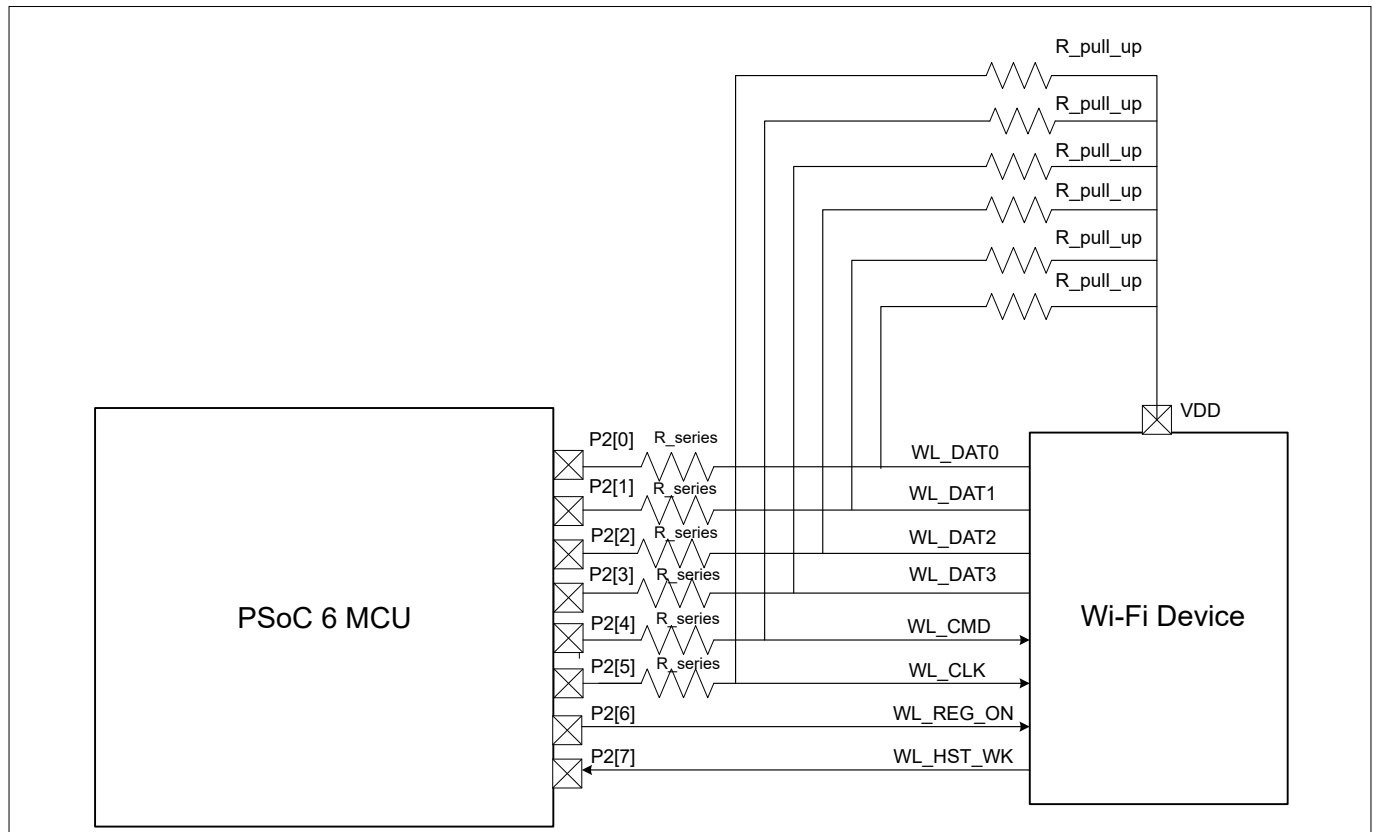
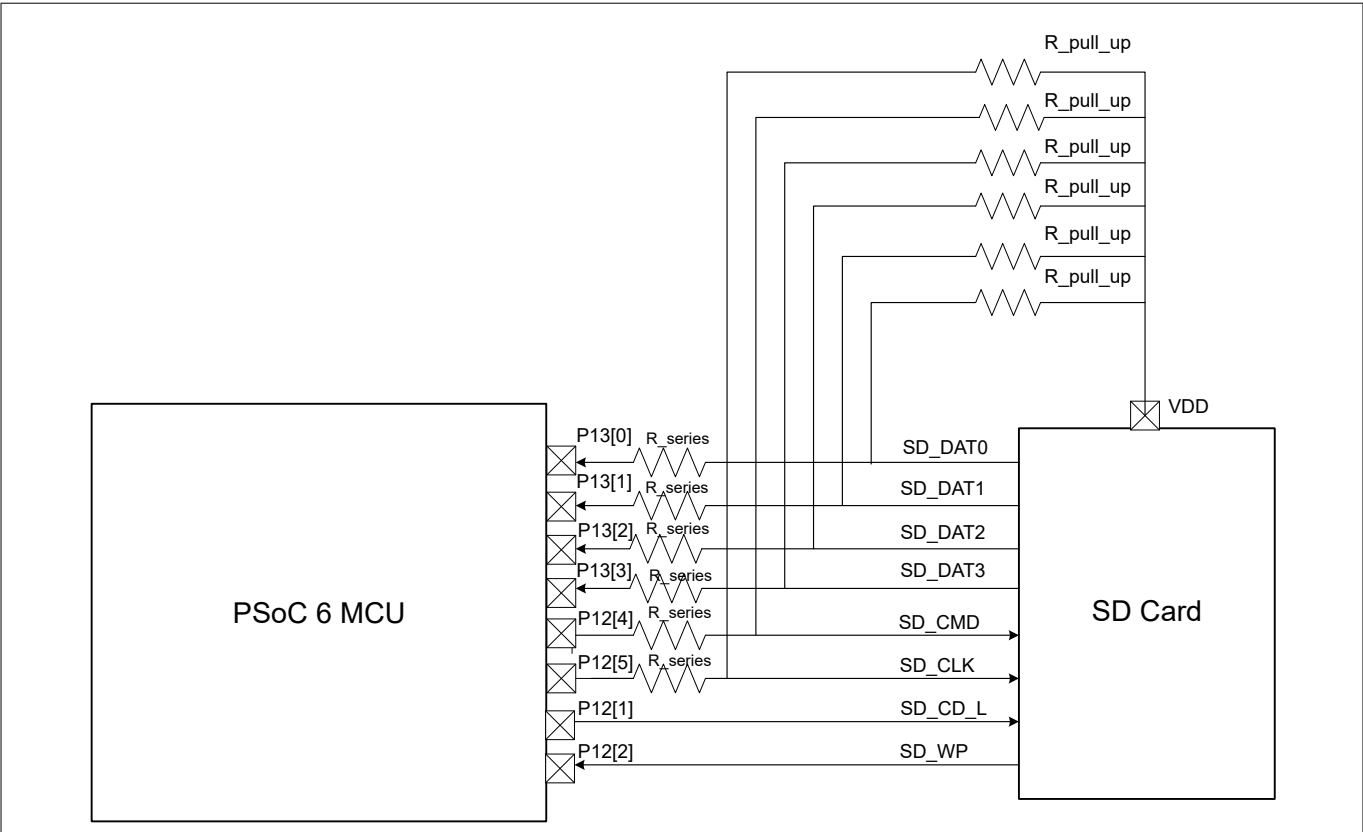

Figure 36 Interfacing Wi-fi device using SDHC in PSoC™ 6 MCU
Figure 37 Interfacing SD storage using SDHC in PSoC™ 6 MCU
CY8C62xA/8/5 devices of the PSoC™ 6 MCU family have up to two secure digital host controllers (SDHC). The SDHC allows interfacing with embedded multimedia card (eMMC)-based memory devices, secure digital (SD) cards and secure digital input output (SDIO) cards. The SDHC block can be used to connect devices providing the SDIO interface, such as Infineon Wi-Fi products. Figure 36 and Figure 37 shows interfacing of a Wi-Fi device and SD storage with PSoC™ 6 MCU. It is recommended to have pull-up resistors (R_{pull_up}) in the range of 10 k Ω – 100 k Ω on the SDIO lines. Also, it is recommended to use series termination resistor of 33 Ω on the SDIOs lines.